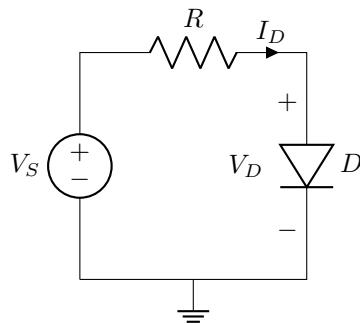

Figure 1: Forward-bias pn junction I-V characteristic measurement circuit.
In this portion of the experiment, you will measure the forward-bias current-voltage characteristics of a silicon diode. Begin by constructing the circuit shown in Figure 1 on your breadboard using the small-signal silicon diode and the 1 kΩ resistor. Ensure that the diode is oriented correctly with the anode connected toward the positive supply terminal and the cathode toward ground. Connect one DMM (Digital Multimeter) across the diode terminals to measure the diode voltage  $V_D$  directly. To measure the current through the diode  $I_D$ , you have two options: either connect the second DMM in series with the circuit (being careful to observe the current measurement limits of your meter), or measure the voltage across the resistor and calculate the current using Ohm's law ( $I_D = V_R/R$ ). The second method is often preferred as it avoids potential issues with meter burden voltage.
2. For the circuit in Figure 1, assume  $V_S = 5$  V,  $R = 1$  k $\Omega$ , and the diode forward voltage is 0.7 V when conducting. Calculate (a) the voltage across the resistor, (b) the current through the diode, and (c)